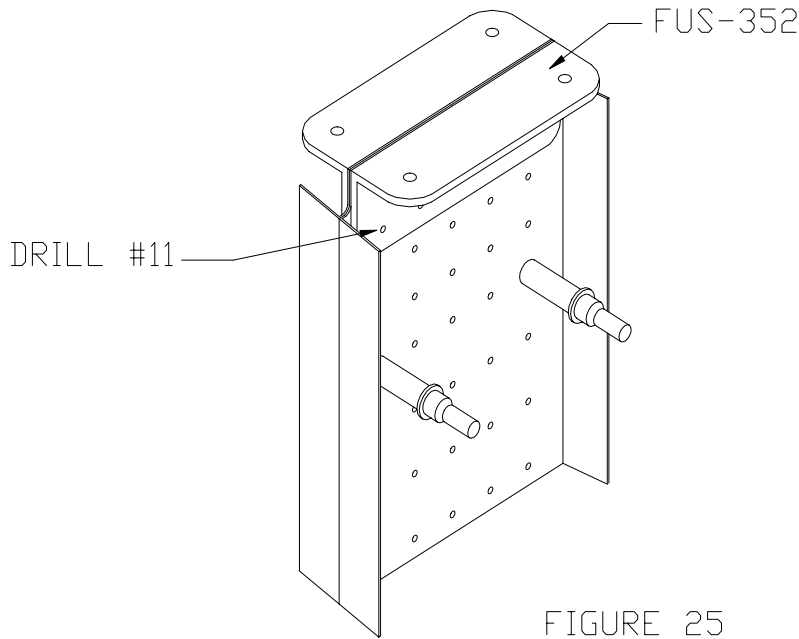

FIGURE 25
86) Cleco the two FUS-352 stab rear mount brackets to the bulkheads and drill the ten common rivet holes to #11. Figure 25.